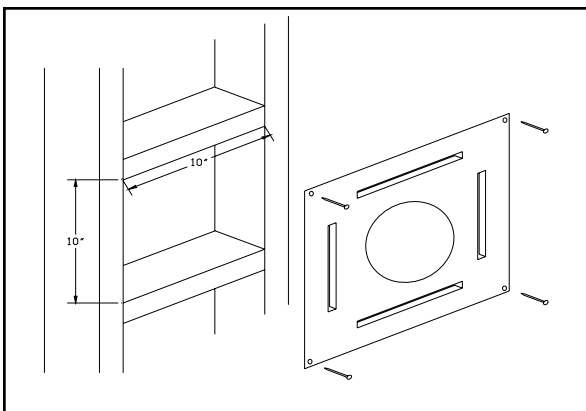

Fig. 10 – Horizontal Firestop
2. Determine where the horizontal vent pipe will exit through the exterior wall. Frame a 10" x 10" opening at the exit location and mount the horizontal firestop. This firestop will assure that all clearances to the vent pipe are maintained. (See fig. 10)